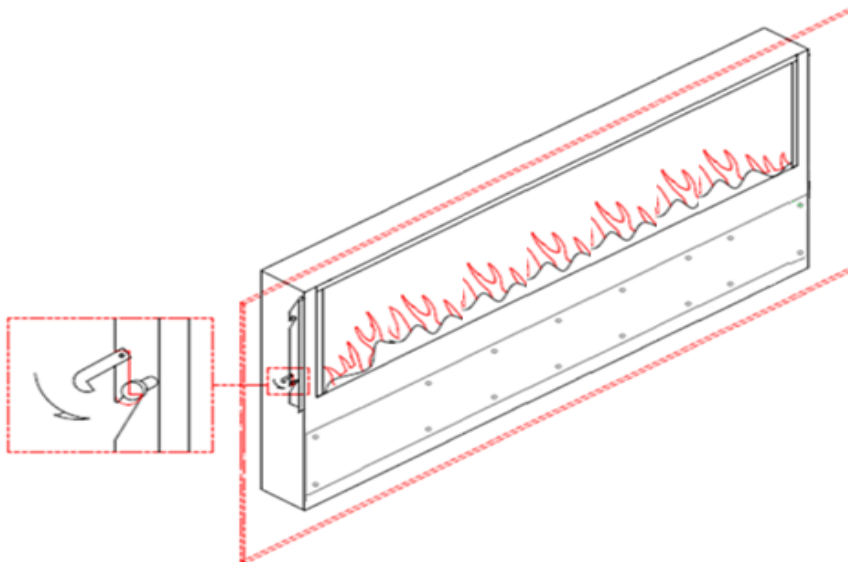

**Fig. 3**
3. Lift the glass face up to the fireplace. Then lower the face into place so that the brackets on the rear of the face locate either side of the studs on the fireplace. Once in place firmly tighten the locking both. **Figure 3**